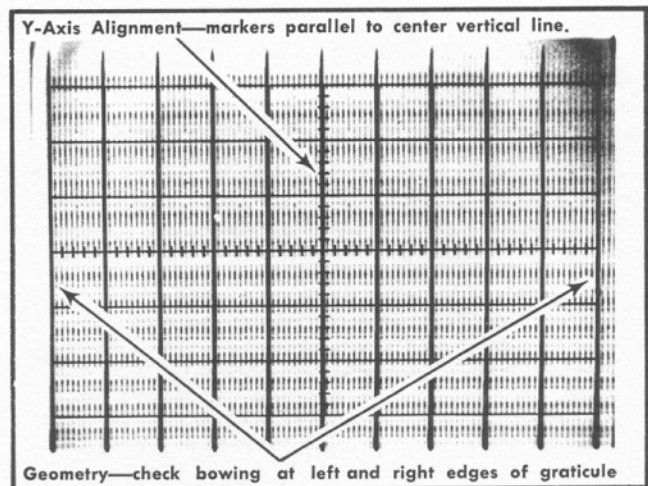

Fig. 5-2. Typical CRT display showing good geometry and y axis alignment.
- CHECK—Marker parallel to the center vertical line within 0.1 division (see Fig. 5-2).
- CHECK—Bowling and tilt of markers over entire display area within 0.1 division or less (see Fig. 5-2).